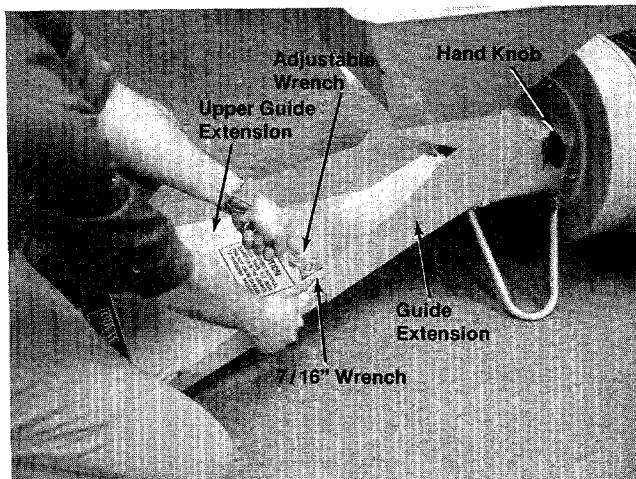

FIGURE 5.
- A. Loosen hand knob on right hand side of shredder. See figure 5.
- B. Place upper guide extension in place on guide extension and secure with four hex screws (B) and hex center locknuts (C). A 7/16" wrench and adjustable wrench is required. See figure 5.